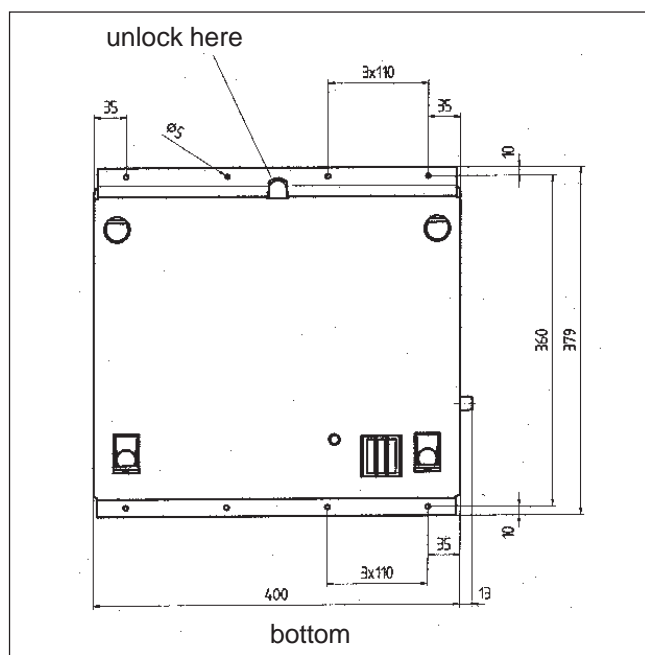

Figure 1
- * The mounting system has 4 bore holes both at the top and bottom edges, allowing it to be mounted to the ambulance in a vertical or horizontal position (take care that the mounting system is flush against the wall of ambulance; in the vertical position the wider part with the cable aperture must face down!) (see Fig. 1).